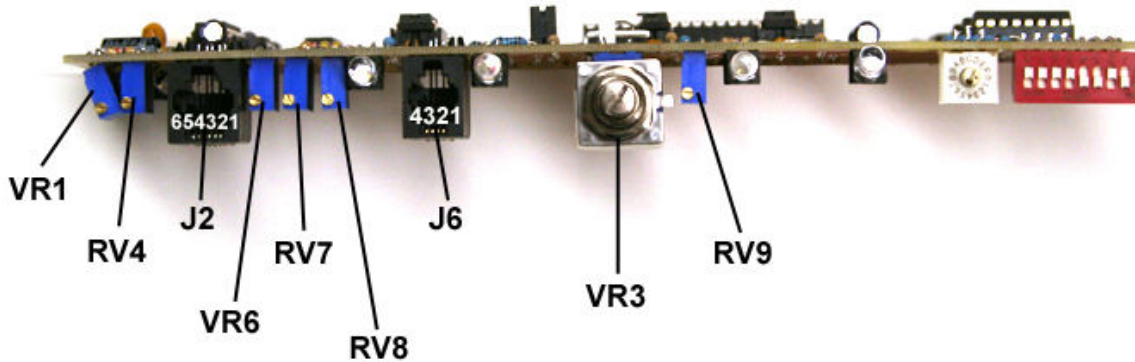

figure 13. New 8A Control Board Exposed View
the auto restart feature which is set by VR6 behind the front faceplate (see figure 13).
Note: On the PFC Chargers the RJ plug is upside down so the pin count reads from right to left as if backwards. Refer to *figure 13* for a visual view. Also, if viewed from the bottom of the printed circuit board, pin #1 is the square pin.
- 4. Pin 4** is the ground return line and is the leftmost pin when viewing the front of the charger head-on. For more details, refer to figure 13 and the table below it.
NOTE: Because the 4 pin RJ port is mounted to the bottom of the control board the pin count reads from right to left as if backwards (see figure 13 below).